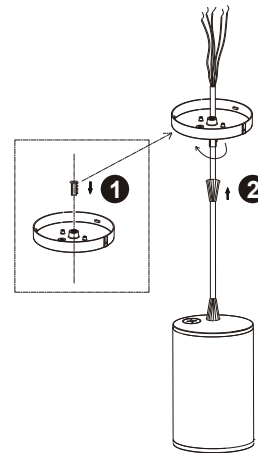

Fig 14
3. ① Attach the hollow screws to the light panel. ② Nut to top screw connection. (Fig 14)